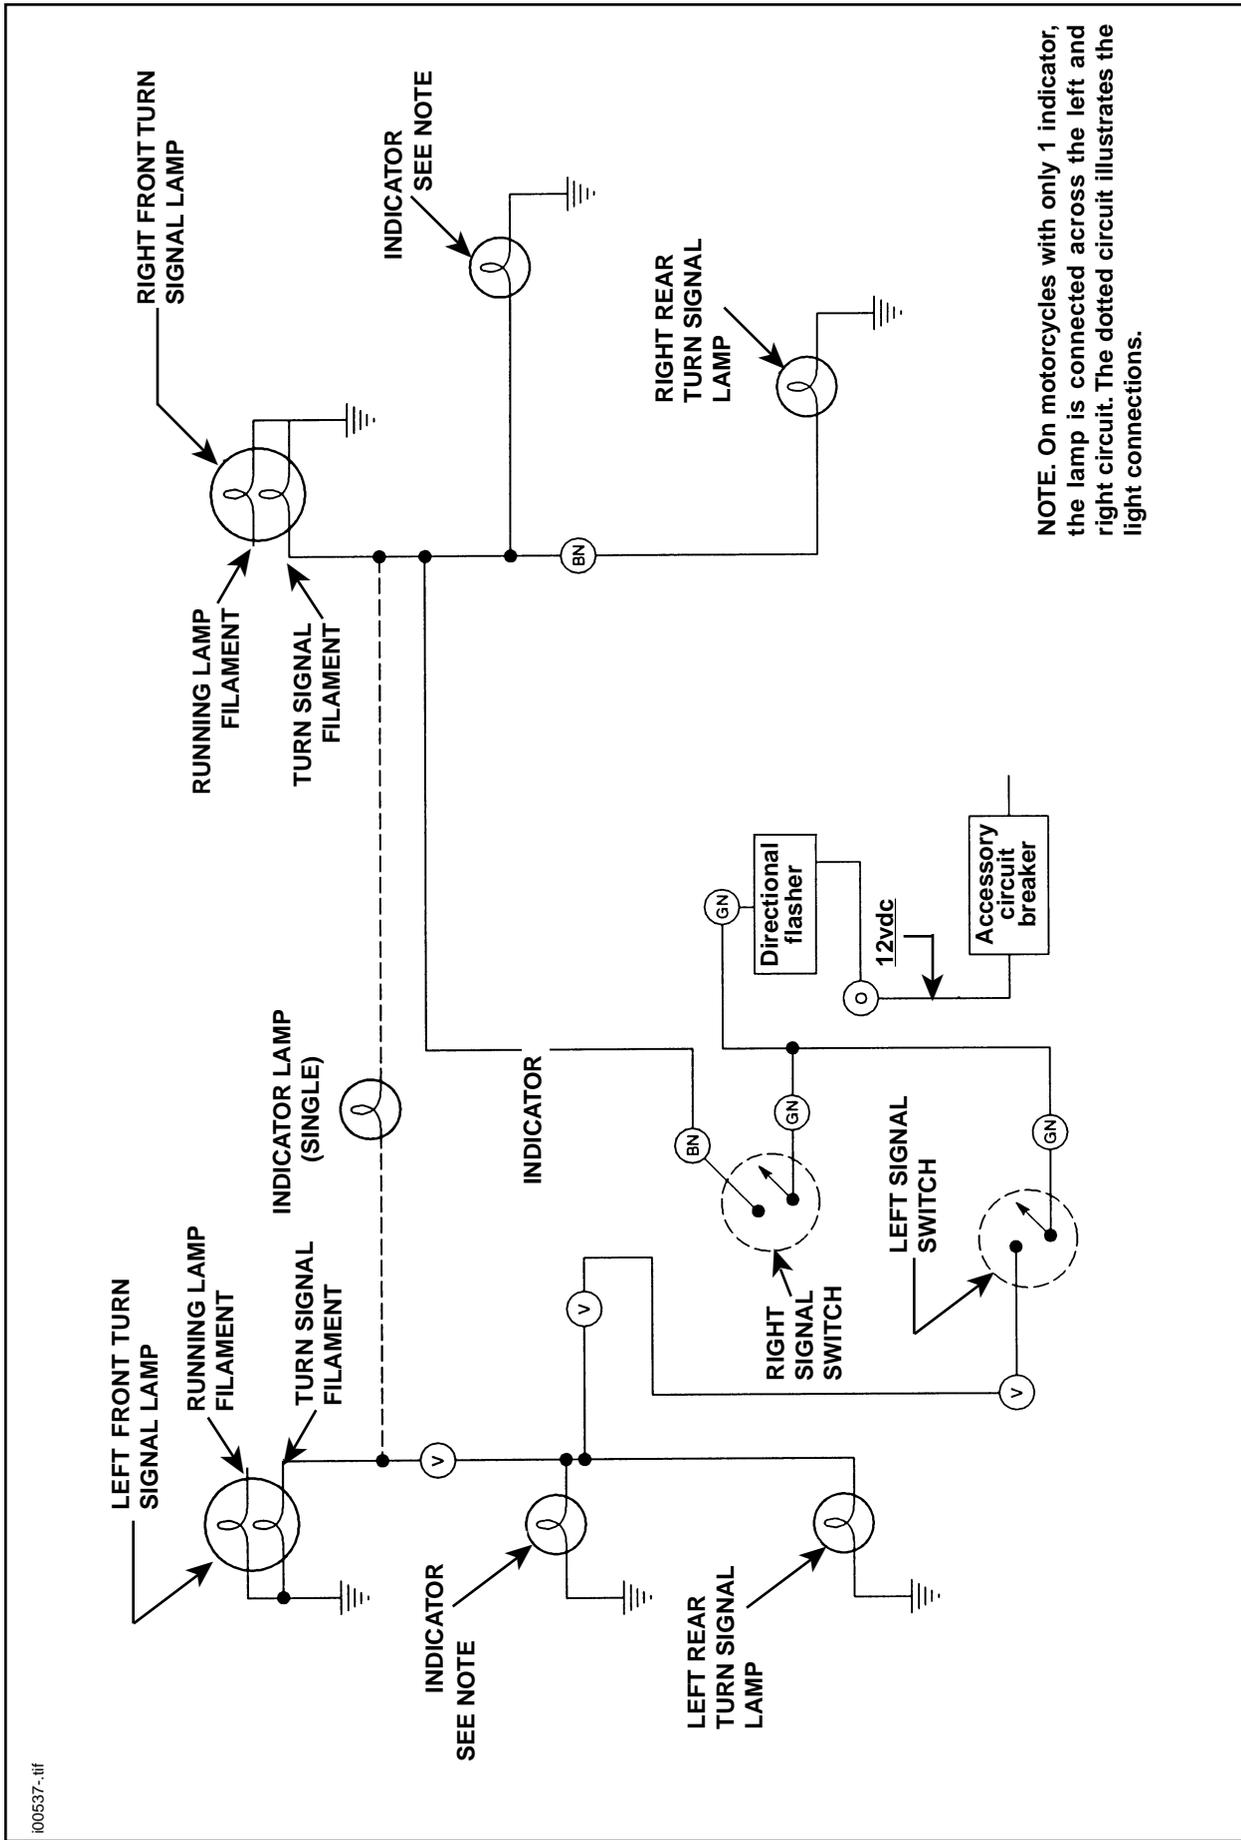
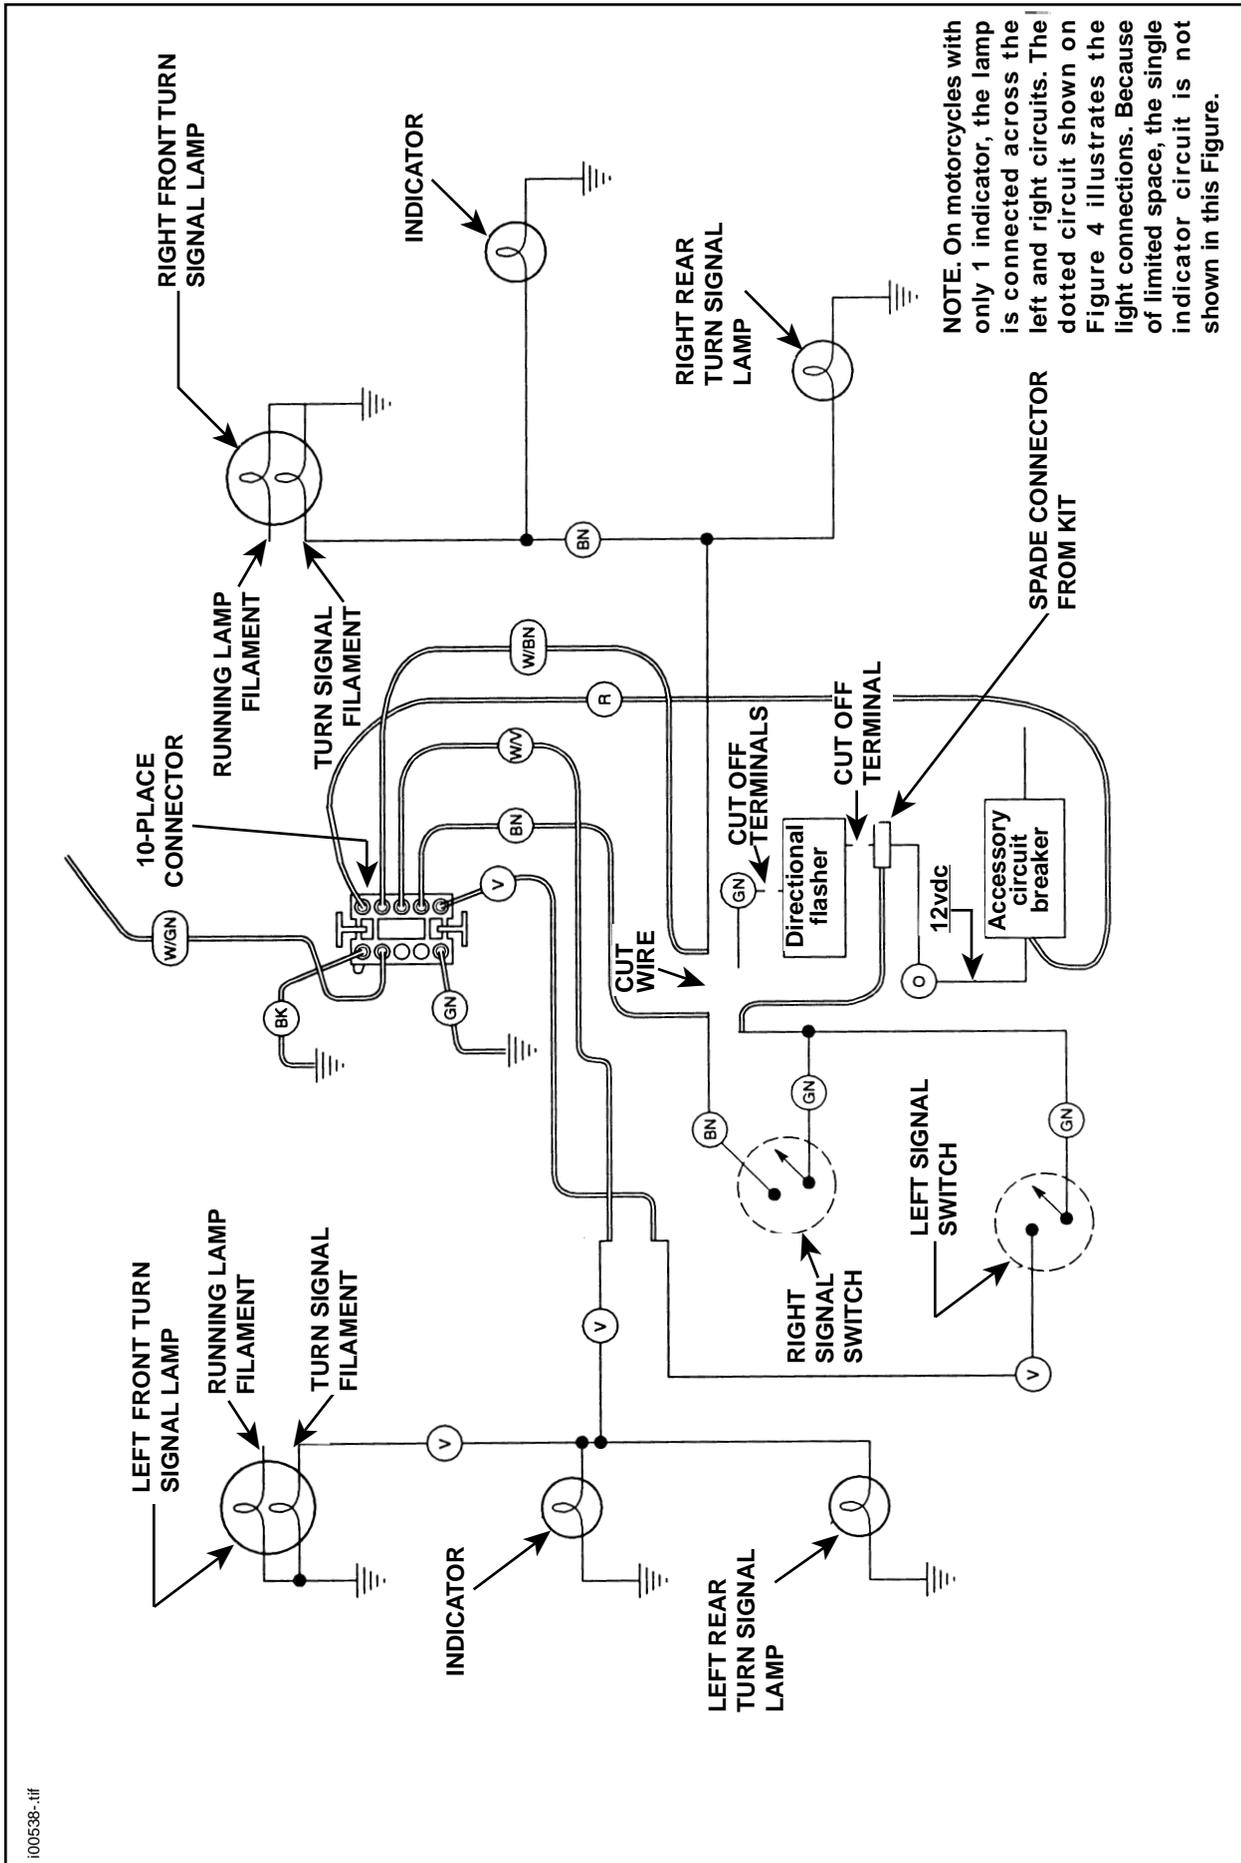

Figure 4. Stock Turn Signal Circuit (No Hazard Flasher)
Figure 5. Stock Turn Signal Circuit (Figure 4.) With Kit Harness Connected
2. See Figure 4 (shows stock signal light circuit) and Figure 5 (shows kit connected in signal light circuit).
3. See Figure 4 (shows stock signal light circuit) and Figure 5 (shows kit connected in signal light circuit).
4. See Figure 4 (shows stock signal light circuit) and Figure 5 (shows kit connected in signal light circuit).